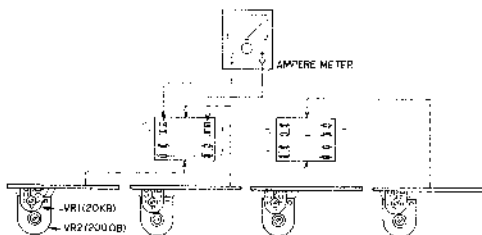

Fig. 16
1. IDLING CURRENT ADJUSTMENT (See Fig. 16)